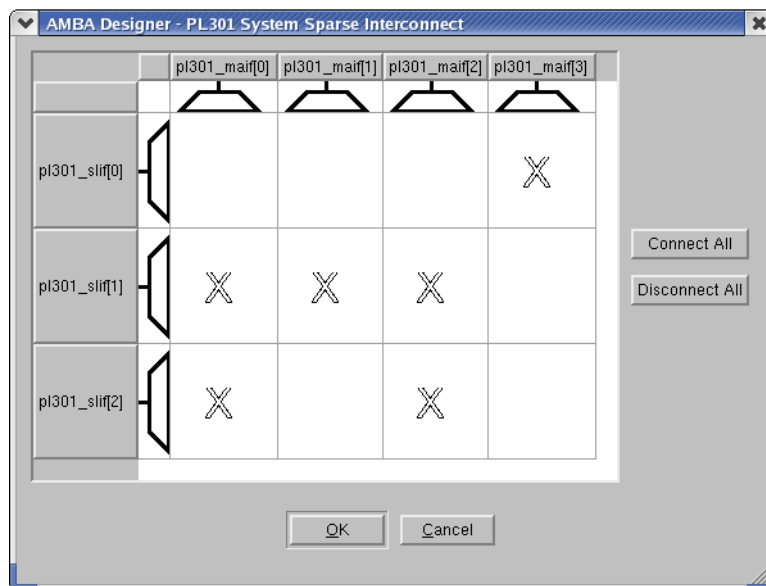
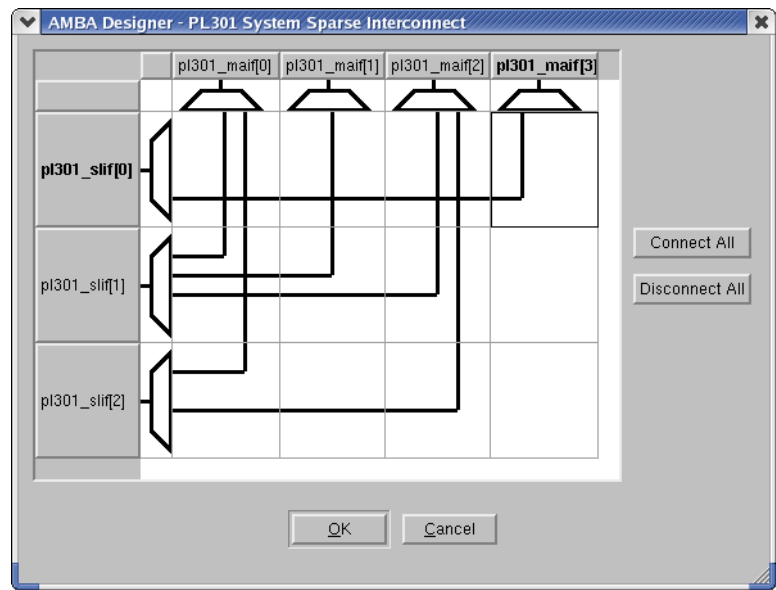

Figure 4-21 Sparse interconnect grid for 4x3 example
Figure 4-22 Configured sparse interconnect
For this example, you must select the area of the grid that Figure 4-21 on page 4-21 shows.
4. Double-click on each of the Xs that Figure 4-21 shows. Figure 4-22 on page 4-22 shows the resulting configured sparse interconnect.